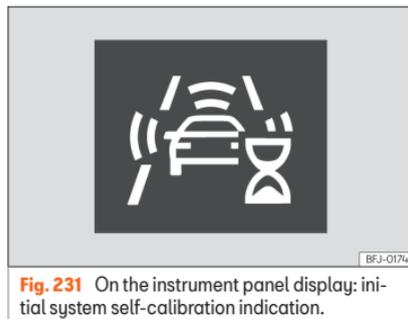

Fig. 231 On the instrument panel display: initial system self-calibration indication.
- In the first few instants of driving after switching on the ignition, due to the system's initial auto-calibration. During this period, a status icon » **Fig. 231** is displayed.